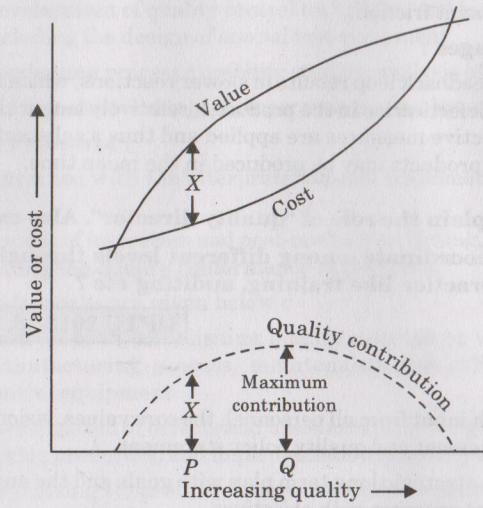

Fig. 2.9.1.
7. It can be seen from the cost curve that as the quality of a product is improved, the cost tends to rise at an increasing rate as shown in Fig. 2.9.1.
8. On the other hand, the value curve shows an opposite tendency, in that the value of the price which the customer is willing to pay for improved quality increases at a decreasing rate as shown in Fig. 2.9.1.